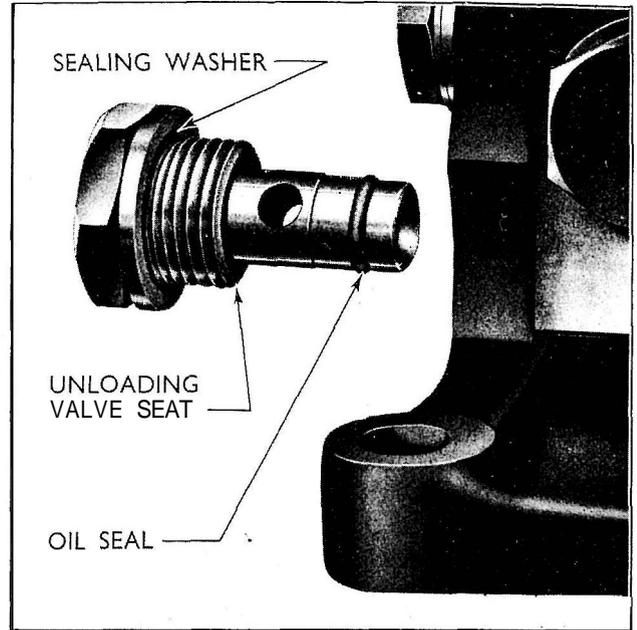

Fig. 186
- 3 Remove the unloading valve seat and washer by unscrewing the hexagonal plug, adjacent to the non-return valve (see Fig. 186).
- 1 Fit a new oil seal in its groove and replace the unloading valve seat and sealing washer. Tighten the hexagonal plug securely. (See Fig. 186.)
- 1 Remove the unloading valve seat by unscrewing the hexagonal plug in the recess, adjacent to the non-return valve, and withdraw the plug which forms the unloading valve seat. Detach the special washer behind the plug head and remove the rubber sealing ring from the stem of the seat. (See Fig. 186.)